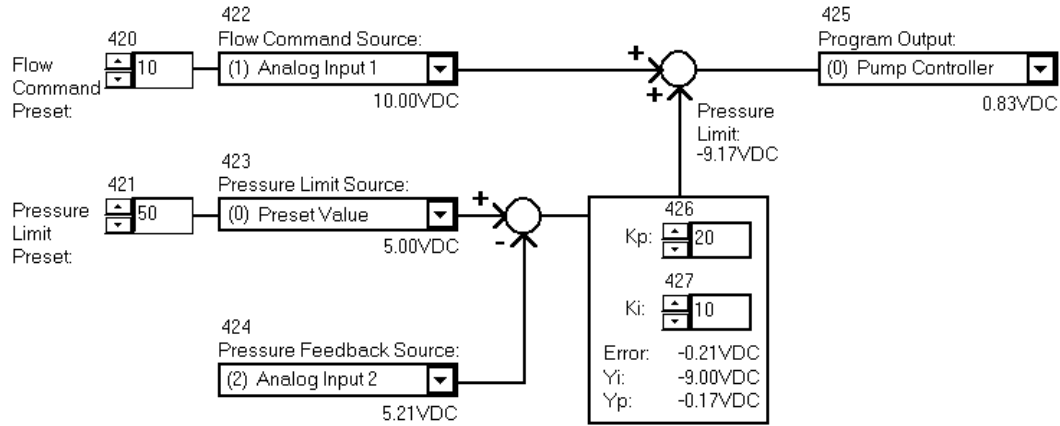

Figure 26: Flow with Pressure Limit Program
Example: Figure 26 shows Program 3 Form for Flow with Pressure Limit (Generation 1). The Flow Command Source is Analog Input 1 (program item 422=1). The Flow Command Preset is set to 10% (program item 420=10) although the Flow Command Preset is not used in this example.